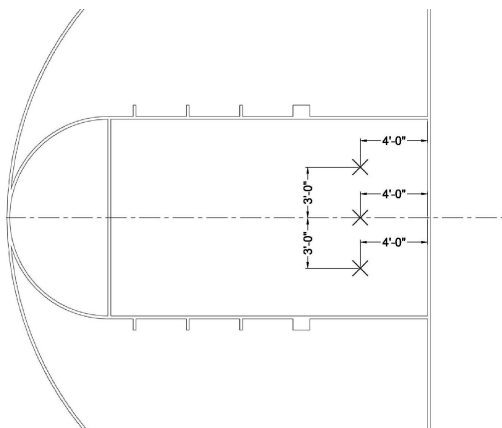

Figure 3
4. Using masking tape and pencil, Mark the location of the center of the court 4'-0" from the inside edge of the court baseline (refer to figure 3). From this center mark, establish a mark 3'-0" to the left and another mark 3'-0" to the right. These marks will be used to align the face of bank to the court.